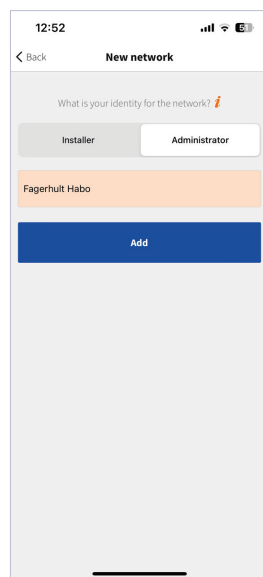

Figure 3.4 Add network
3. Select identity and "Add" (see figure 3.4).